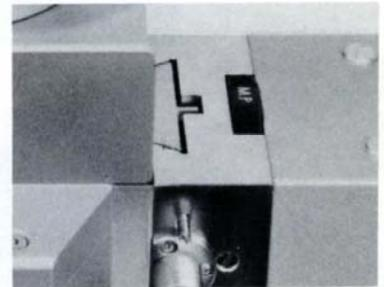

Fig. 3
1) Remove the standard observation tube from the microscope stand, and turn the selector turret on top of the microscope stand to position "M.P.". (Fig. 3)